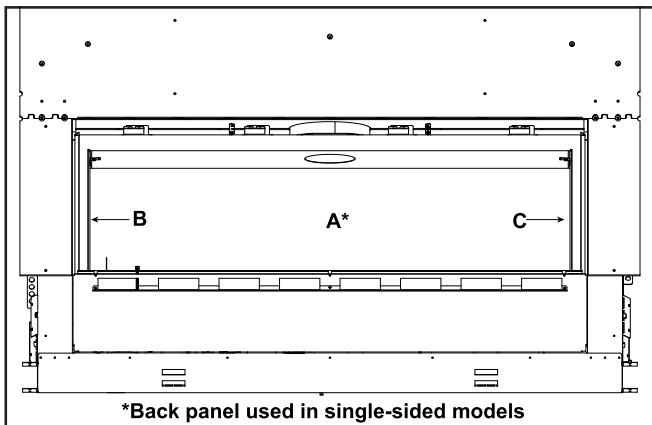

Figure 11.4 Placement of Glass Panels
- Set back glass panel, labeled A in Figure 11.4, into firebox with the smooth side of the glass facing outward. Insert retaining bracket through the slot in the inner firebox heat shield. Line up the existing hole in the heat shield with the hole closest to the bend in the bracket and secure in place with a screw.
- Install the left side panel, labeled "B" in Figure 11.4, by sliding it into place from the front. While installing, press the panel firmly against the firebox side.
- Set left side glass panel, labeled B in Figure 11.4, into firebox with the smooth side facing outward.